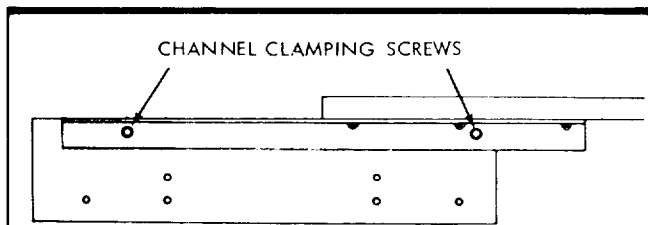
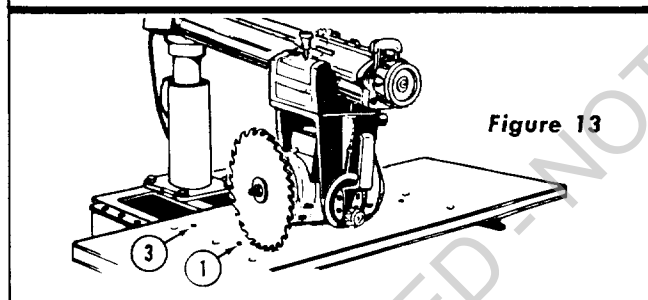

Figure 11
Figure 13
3. Loosen channel clamping screws (figure 11) at both left and right sides of the base. Re-tighten to finger tightness for adjustment of table.
6. Move the blade to the back of table, directly behind the high point. Raise the table to blade height at this point by adjusting the screw at point (3, figure 13) on left-hand side of table. Tighten the channel clamping screws at front and back of base on the left-hand side. (See figure 11.)